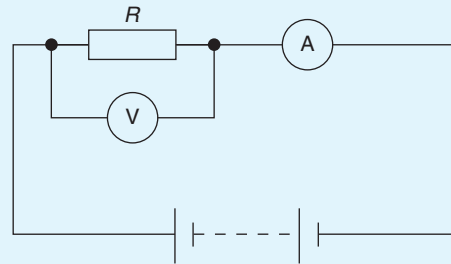

Figure 5.58
11. If in the circuit shown in Fig. 5.58, the reading on the voltmeter is  $5\ \text{V}$  and the reading